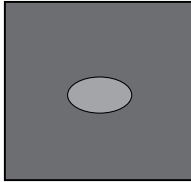

Figure 14.3
5. Move the safe aside to clear the marked spot for drilling (Figure 14.3).